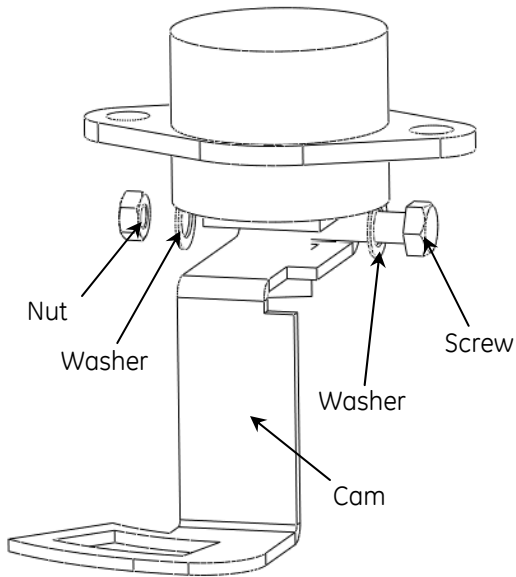

Fig 2.
4. Fix the cam with the Castell lock with the screw and nuts provided along with the kit as shown in fig 2.